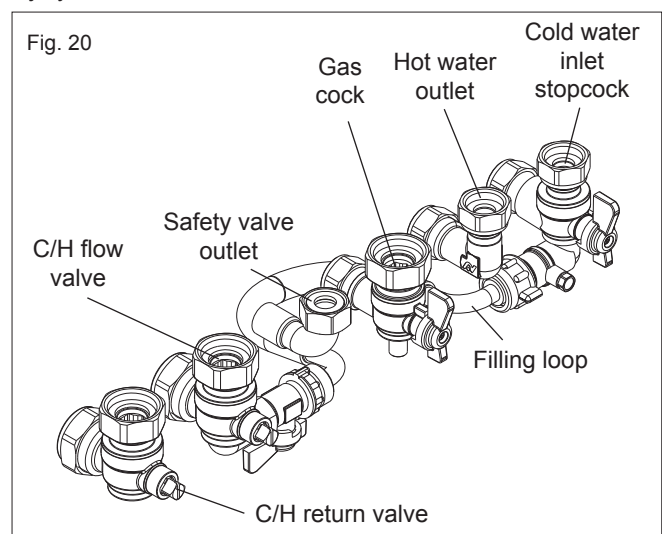

Fig. 20
5.6.1 GAS (fig. 20)
5.6.2 FLOW & RETURN (fig. 20)
5.6.3 COLD WATER INLET (fig. 20)
5.6.4 HOT WATER OUTLET (fig. 20)
5.6.5 SAFETY VALVE (fig. 20)